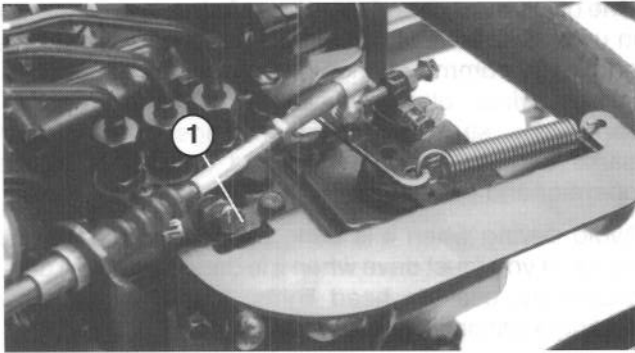

Figure 22
4. Open the air bleed screw on the fuel injection pump (Fig. 22) with a 10 mm wrench.